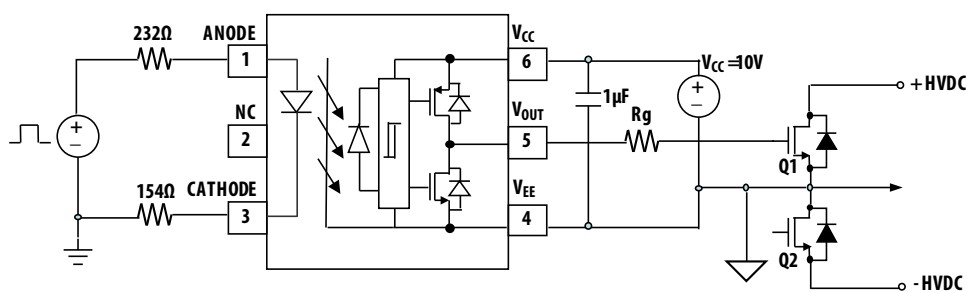

Figure 22. Recommended application circuit with split resistors LED.
The recommended application circuit shown in Figure 22 illustrates a typical gate drive implementation using the ACPL-P346.
Step 1: Calculate Rg minimum from the I_{OL} peak specification. The MOSFET and Rg in Figure 22 can be analyzed as a simple RC circuit with a voltage supplied by ACPL-P346/W346.
The ACPL-P346/W346 includes a Propagation Delay Difference (PDD) specification intended to help designers minimize “dead time” in their power inverter designs. Dead time is the time period during which both the high and low side power transistors (Q1 and Q2 in Figure 22) are off. Any overlap in Q1 and Q2 conduction will result in large currents flowing through the power devices between the high and low voltage motor rails.